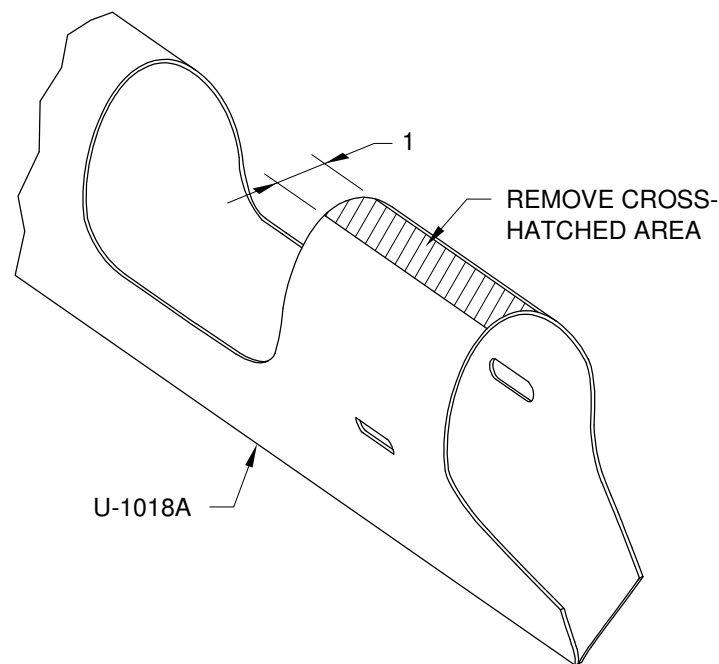

FIGURE 2: MODIFYING THE NOSE GEAR LEG FAIRING
Step 4: Remove a 1 in. wide strip of fiberglass from the top center of the U-1018A Nose Gear Leg Fairing as shown in Figure 2. This will allow the aft part of the fairing to slip over and later attach to the WD-1017 Nose Gear Leg Assembly.